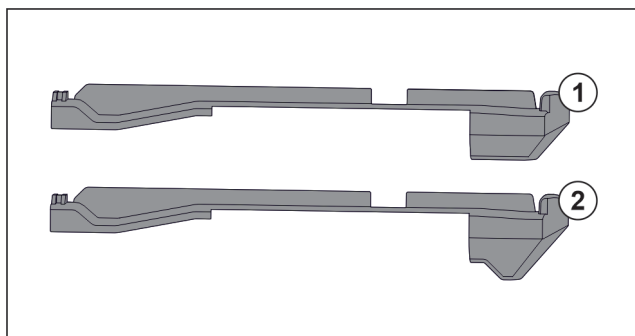

Fig. 18 Comparing attachments
There are two different attachments in the appliance. The attachment above the lowest drawer Fig. 18 (2) has a three-cornered edge. All other attachments Fig. 18 (1) have a straight edge.
- ▶ Fit attachment Fig. 18 (2) with the three-cornered edge above the lowest drawer.
- ▶ Fit attachment Fig. 18 (1) with straight edge in all other positions.